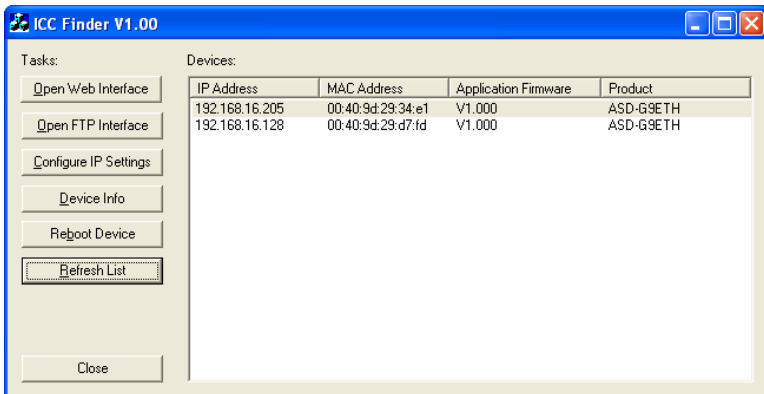

Figure 5: ICC Finder Discovery Utility
3. The discovery utility scans the network for ICC devices and then lists each device's **IP Address**, **MAC Address**, **Firmware Version** and **Product ID**. Identify your device by its MAC address (printed on a label on the top of the Ethernet network jack). Refer to Figure 5.